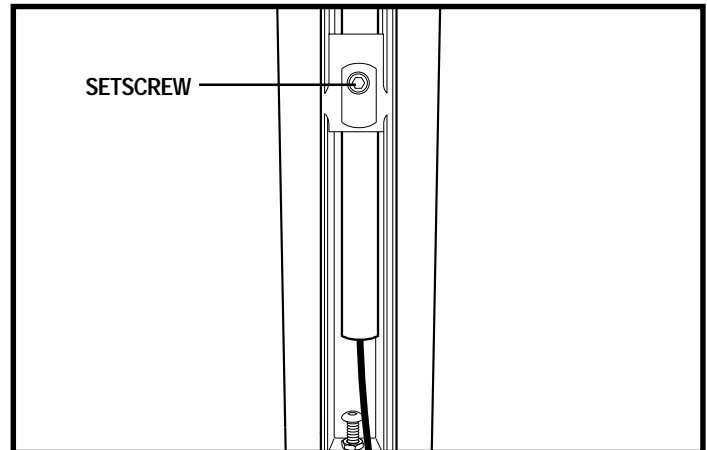

Figure 19. Underside of Armrest
5. Flip up the armrest and loosen the setscrew. See figure 19.